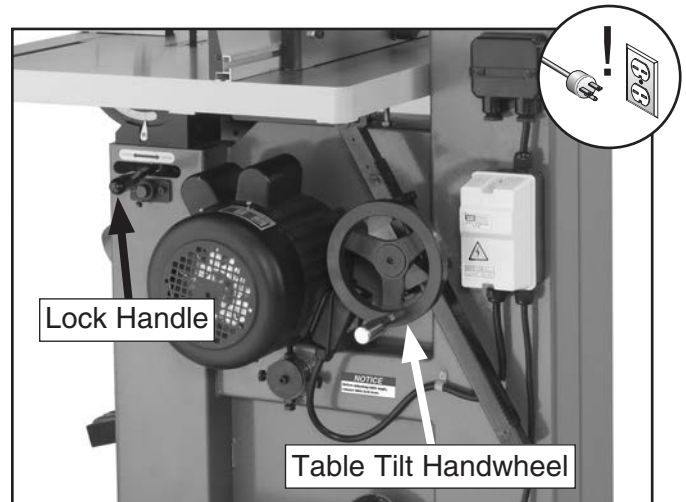

Figure 43. Table tilt controls.
2. Loosen the table tilt lock handle shown in **Figure 43**.
3. To tilt the table to the right, turn the table tilt handwheel clockwise (see **Figure 43**).